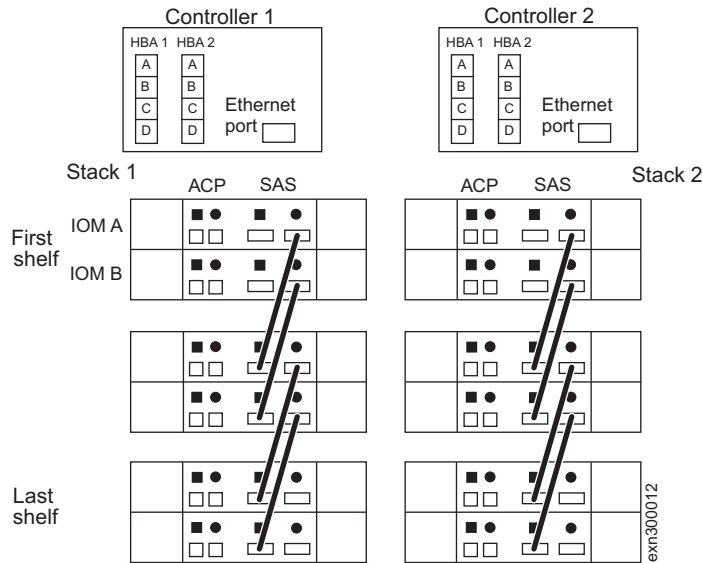

Figure 13. Daisy-chain the SAS ports
1. Daisy-chain the SAS ports, as shown in Figure 13.